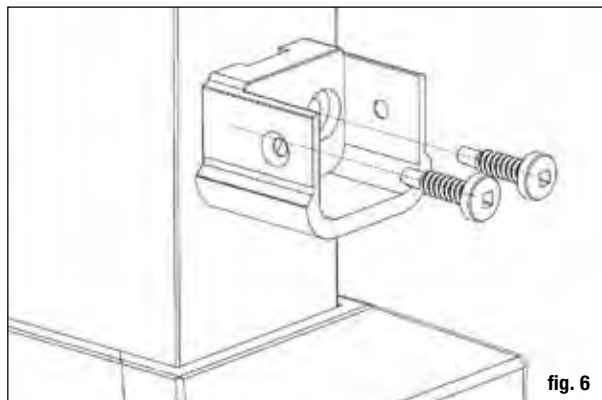
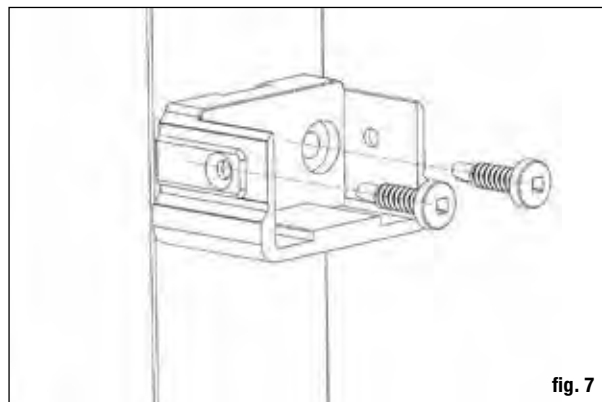

fig. 6
fig. 7
Step 5 Position the rail between the posts. Check for level end-to-end and vertically. Attach brackets to the post at one end. Repeat for the other end. *Note: Use a driver extension bit to avoid marring the rail with the drill chuck* (fig. 6 and fig. 7).